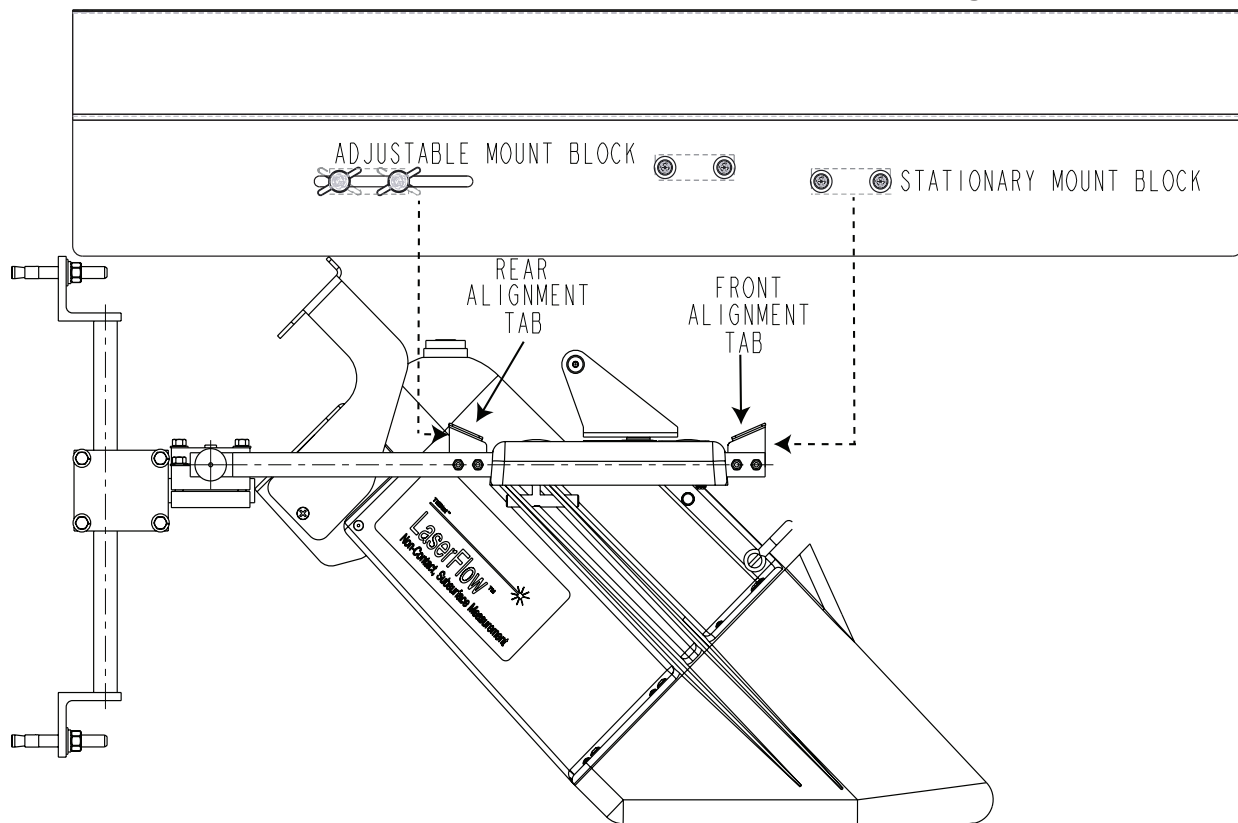

Figure 2-21 Mounting the sunshade
2. Position the sunshade on top of the LaserFlow Ex sensor mount and slide the sunshade toward the rear until the four stationary mounting blocks (two on each side of the sunshade) fit under the two front alignment tabs of the LaserFlow Ex sensor carrier. See Figure 2-21.
3. Slide the two adjustable mounting blocks (connected to the tee knobs) until they fit under the rear alignment tabs of the LaserFlow Ex sensor carrier. See Figure 2-21.